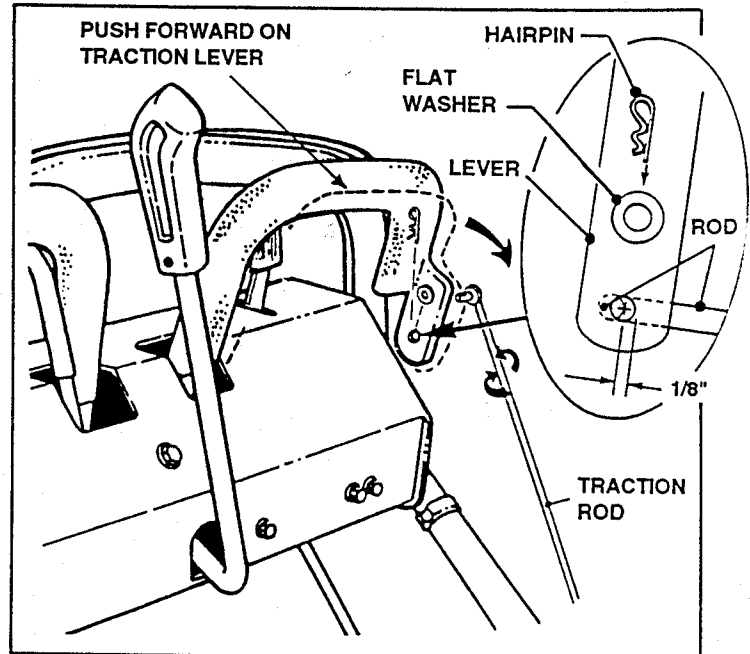

FIGURE 25
6. Traction Wheel Brakes may need to be adjusted after Traction Rods. See Steering / Brake section above and Figure 25.
Connecting the Lower Traction Rod Swivel into holes (A or B) in Figures 25 or 26 will provide some neutral band (A) or a wide neutral band (B). Hand force required on the Traction Lever will increase substantially. The Traction Rod length does not need changing; however, the Steering Brakes will require adjustment for best performance.